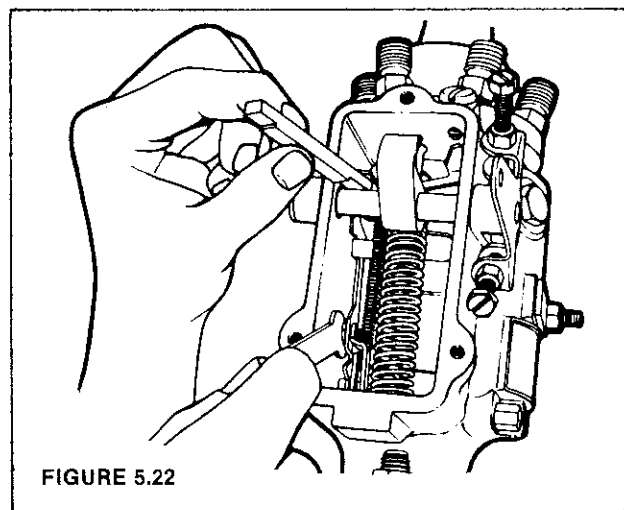

FIGURE 5.22
STEP 22 Invert the pump and fixture in the vise. Prior to measuring and adjusting the linkage gap, hold throttle lever in wide open position and rotate the drive shaft in the proper direction of rotation until a slight "click" is heard, as the toes of the governor arm engage slots in the thrust sleeve. The torque screw (if used) should be backed out. With the throttle lever held in wide open position, use linkage gauge No. 18914 to check the clearance between the rear of the shutoff shaft and the vertical tab on the linkage hook. (Refer to pump specifications for correct dimension.) Adjustment of this clearance is made by using linkage wrench No. 13379 to change the effective length of the linkage hook. Loosen the adjusting screw and slide linkage to maximum open length. Insert linkage gauge No. 18914 between vertical tab and shutoff shaft, and slide linkage hook together from the rear until face of tab is flush against gauge. Tighten adjusting screw. Check adjustment and reset if required (Figure 5.22).